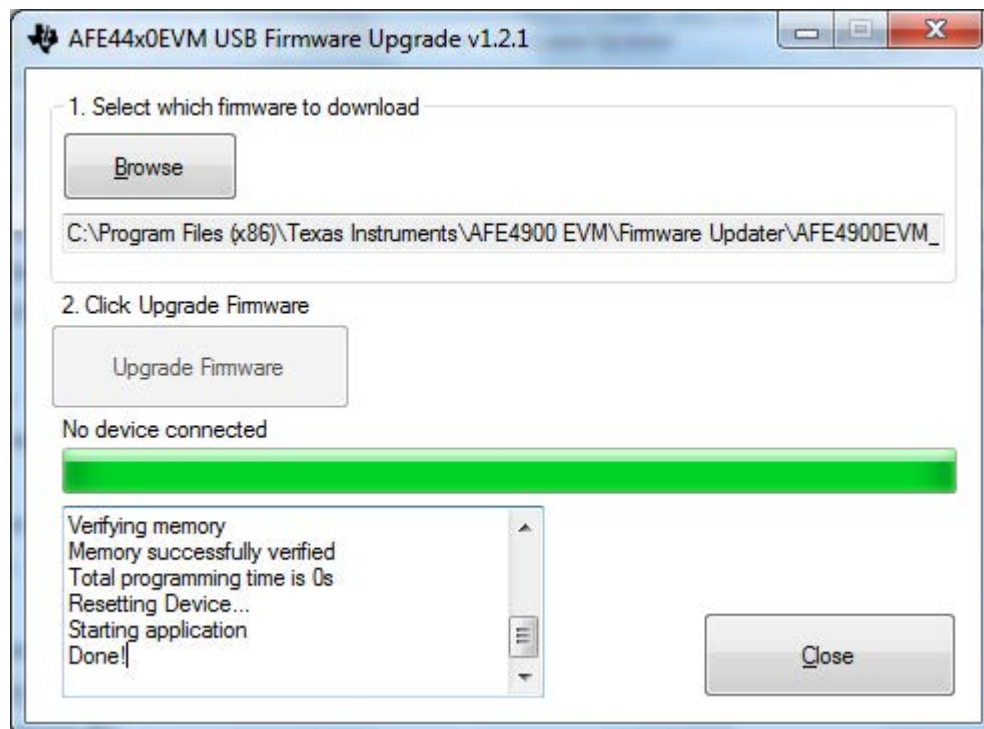

Figure 54. Firmware Loader Application: Programming Status
5. The text box will display the status of the firmware programming. If programming is successful, the *Done!* message is displayed in the text box. Figure 54 shows the status of the successful programming.